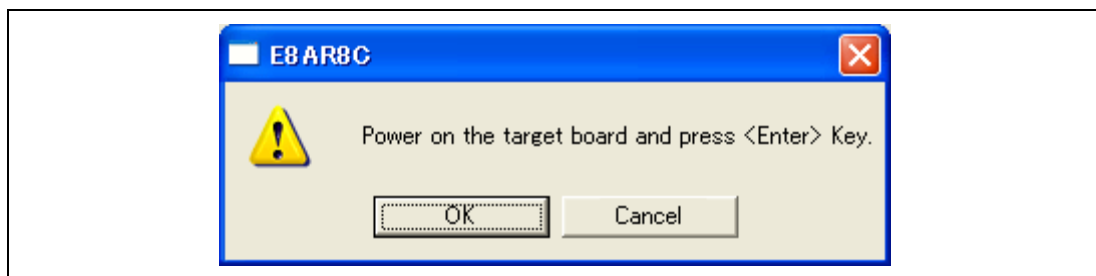

Figure 4.25 Dialog Box of Power-on request message
- (e) When [Power Target from Emulator. (MAX 300mA)] is not checked, the dialog box shown in Figure 4.25 will be displayed.